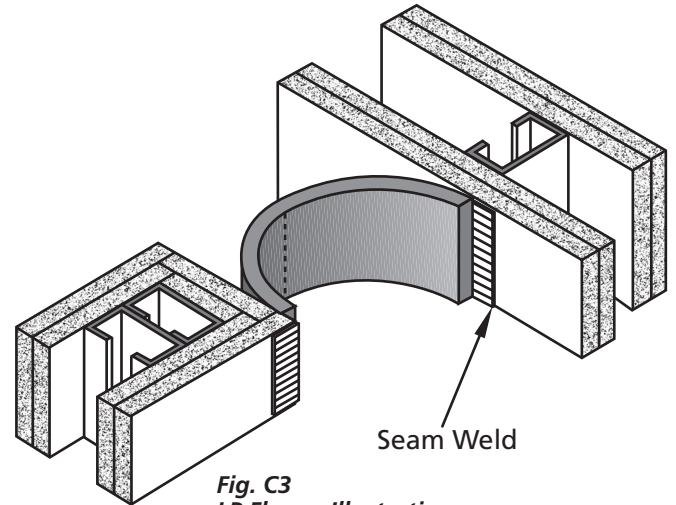

Fig. C3
With the Low Profile (LP) galvanized flange configuration on the wall side, the foil flange can be folded over itself before the galvanized flange is fastened into place (See Fig. C3).